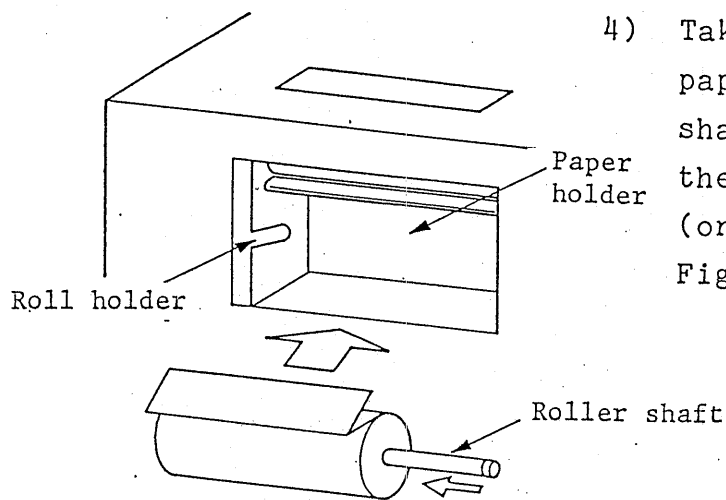

Fig. 14.4
- 4) Take the roll shaft out of the paper roll holder. Insert the shaft into the new roll. Put the roll into the holder (orientation indicated in Fig. 14.4).